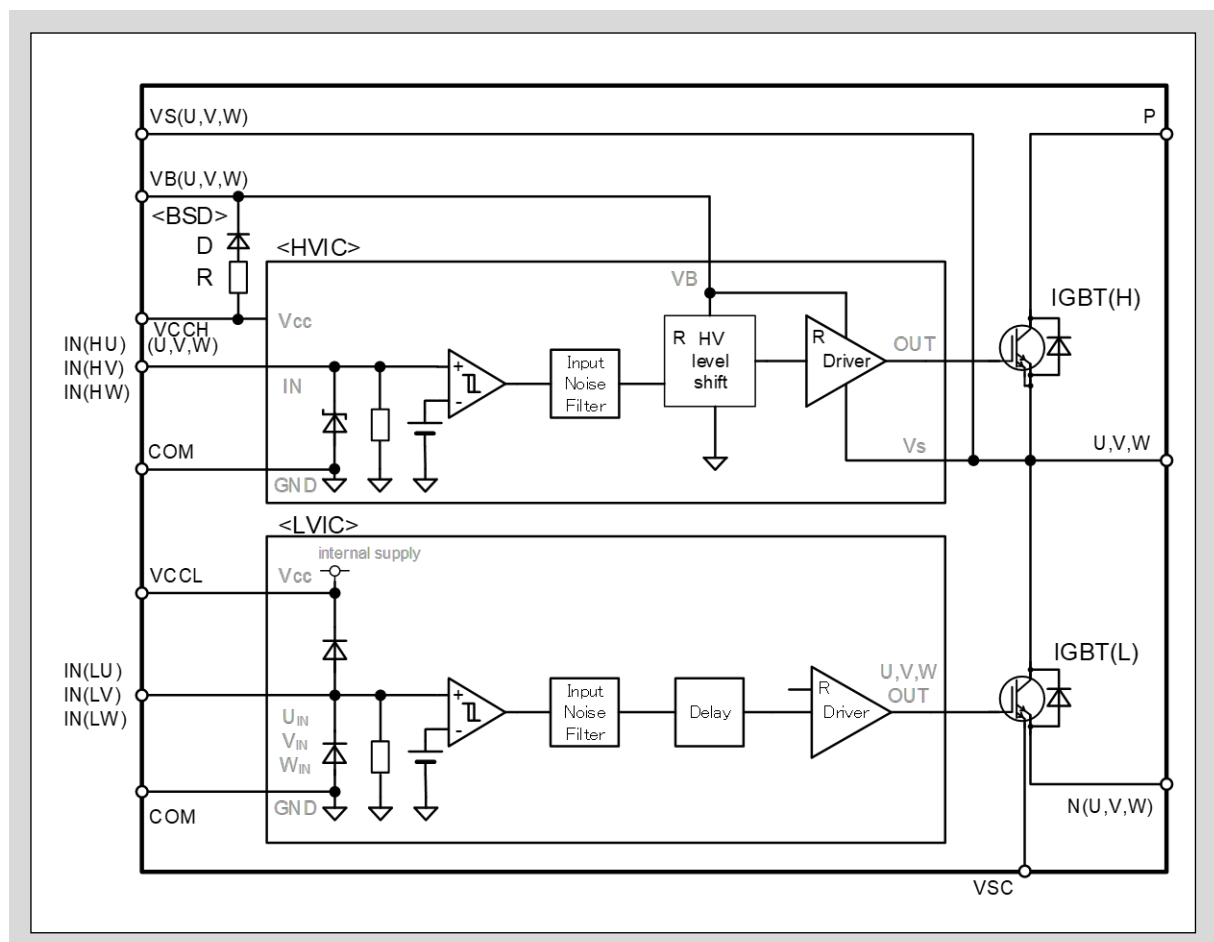

Fig.3-16 Circuit of IN(HU,HV,HW), IN(LU,LV,LW) terminals
- The input logic of this product is high active. Thus, the input signal has no restriction on the power supply startup and shutdown sequence, so the system is fail safe. In addition, as shown in Fig. 3-16, the input terminals have built-in pull-down resistors, thus there is no need for external pull-down resistors, reducing the number of system components. Furthermore, a 3.3V-class MPU can be connected directly since the input signal threshold voltage is low.
- As shown in Fig.3-16, diodes are connected to the VCCL-IN(HU,HV,HW,LU,LV,LW) and IN(HU,HV,HW,LU,LV,LW)-COM terminals. These diodes are built-in to protect the product from input surge voltage. Do not use these diodes for voltage clamp purpose as it might damage the product.